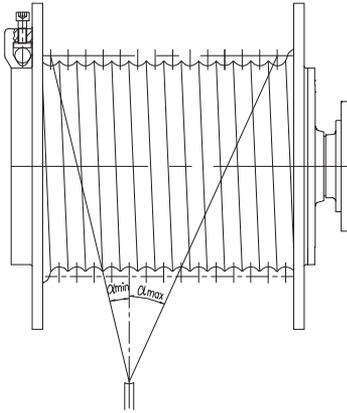

图4/ Figure 4
4.3 为了保证钢丝绳正常缠绕，要求绳偏折角 α 维持在允许范围之内（图4），应注意以下几点：
4.3 To achieve acceptable rope winding, the deflection angle α must be kept in the allowable value (figure 4) Attend the following points: